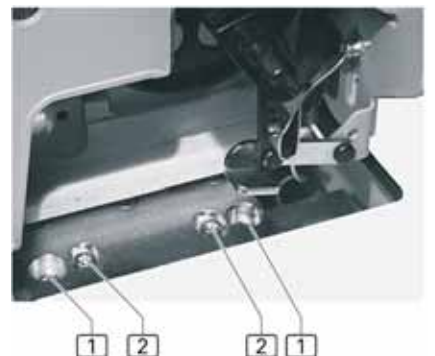

fig. 25
1. **fig. 25:** Loosen both locking screws **1** and the Allen screw **2** on the height adjustment device.